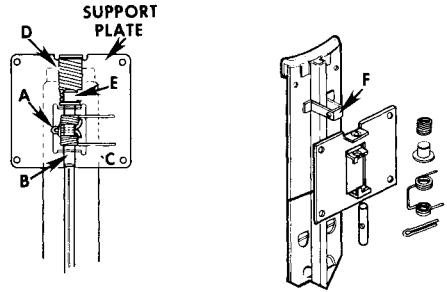

Figure 4 - Spring Support Assembly
1. Refer to Figure 4 and remove cotter pin A.